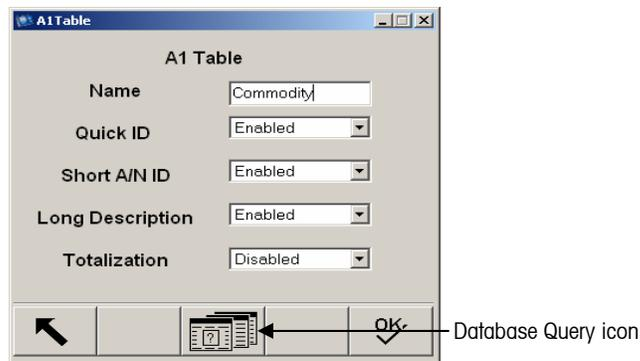

Figure B-14: A1 Table Information
2. Double click on the selection to view the table information (Figure B-14).